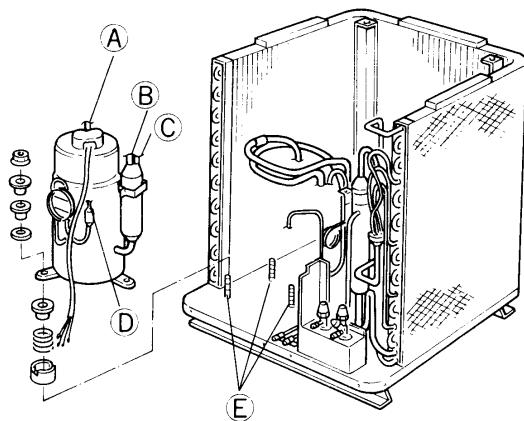

Fig. 21
- 1) Use an oxyacetylene torch to separate the four places (A), (B), (C), and (D) where tubing is welded to the compressor.
- 2) Remove the three nuts (E) fixing the compressor, and raise the compressor to remove it. Fig. 21